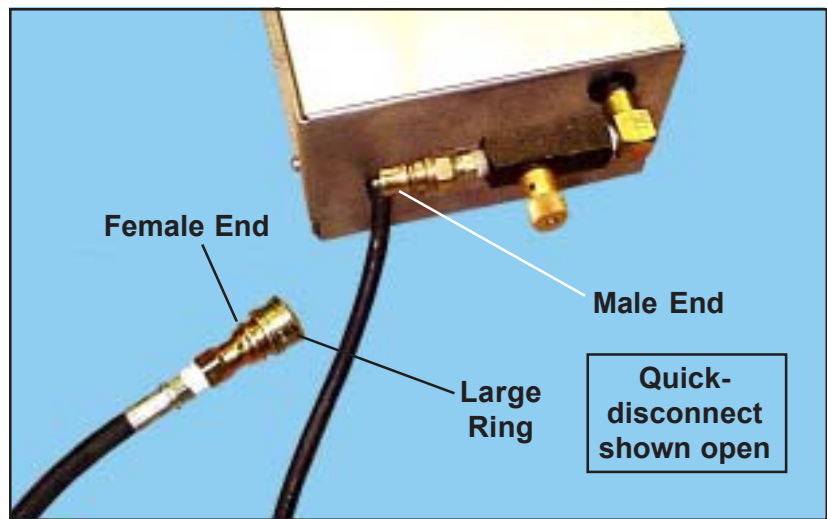

Figure 39. Quick-disconnect to Power Pack
6. At the power pack, dis-connect the hydraulic hose quick-disconnect fitting (Figure 39). **Note:** Pull the large ring away from the valve and the fitting will come free.